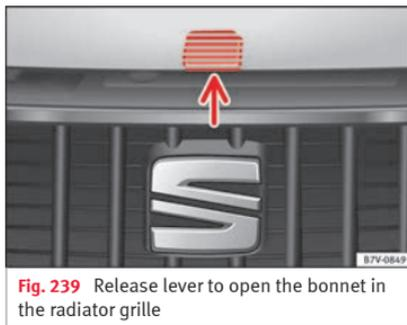

Fig. 239 Release lever to open the bonnet in the radiator grille
- Lift the bonnet using the release lever »» **Fig. 239** (arrow) and open the bonnet fully. The bonnet is held open thanks to the gas strut.